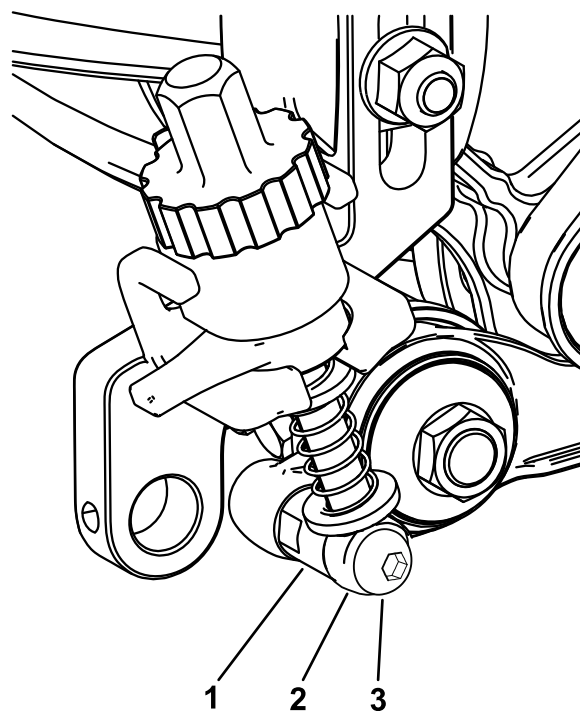

Figure 23
5. On the idler assembly side, secure the adjuster-arm assembly rod to the idler assembly by installing a shoulder bolt through the adjuster collar as shown in Figure 23; torque the shoulder bolt to 20 to 26 N·m (15 to 19 ft-lb).